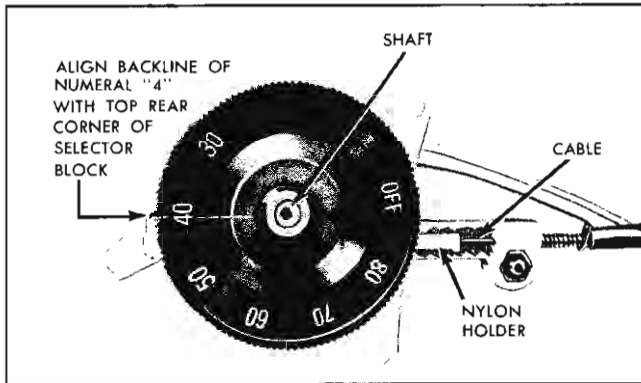

Fig. 12-47 Calibrating Selector Dial
### SELECTOR DIAL CALIBRATION (Fig. 12-47)
4. Install selector dial on shaft so that backline on numeral 4 (of 40 MPH setting), when in horizontal position, aligns with top rear corner of selector block (Fig. 12-47).